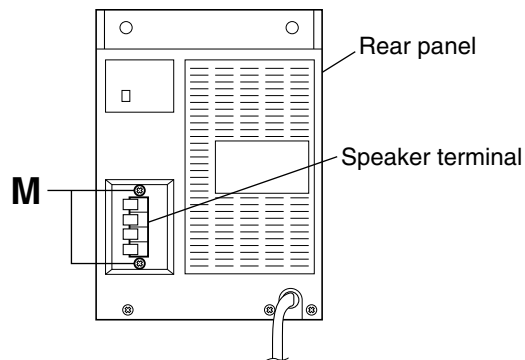

Fig.17
- Remove the main board according to its disassembly method (see **Figs. 17 and 18**).
■ Removing the main board (See Figs. 17 and 18.)